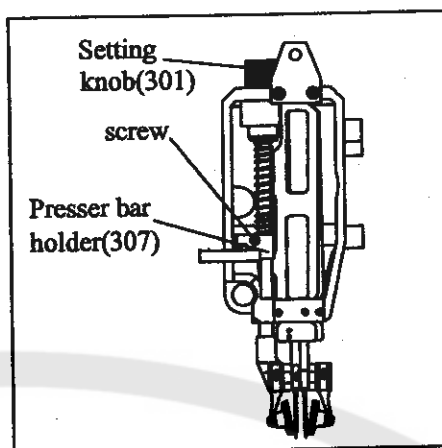

Fig 6
4.4 Height adjustment setting of presser wheel (Fig 6)
- Turning the knob(301) in the clockwise direction , the presser wheel(315) will be moved downward . And turning the knob(301) in the anti-clockwise direction , the presser wheel(315) will be moved upward.
4.5 Pressure adjustment setting of presser wheel (Fig 6)